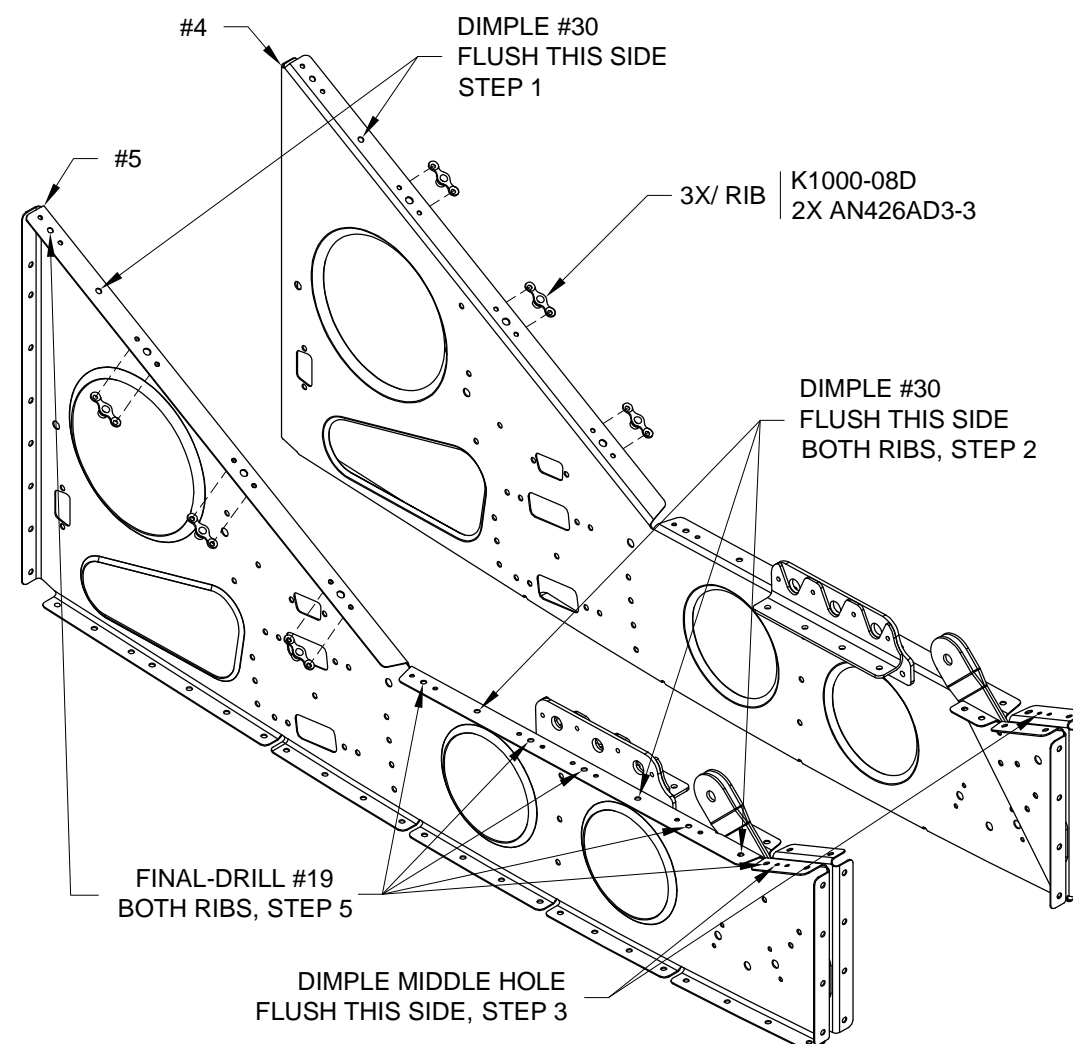

FIGURE 1: PREPARING SEAT RIB ASSEMBLIES
Step 1: Dimple #30 the hole in Ribs #4 and #5 fwd (sloped) flange per the call-out. See Figure 1.